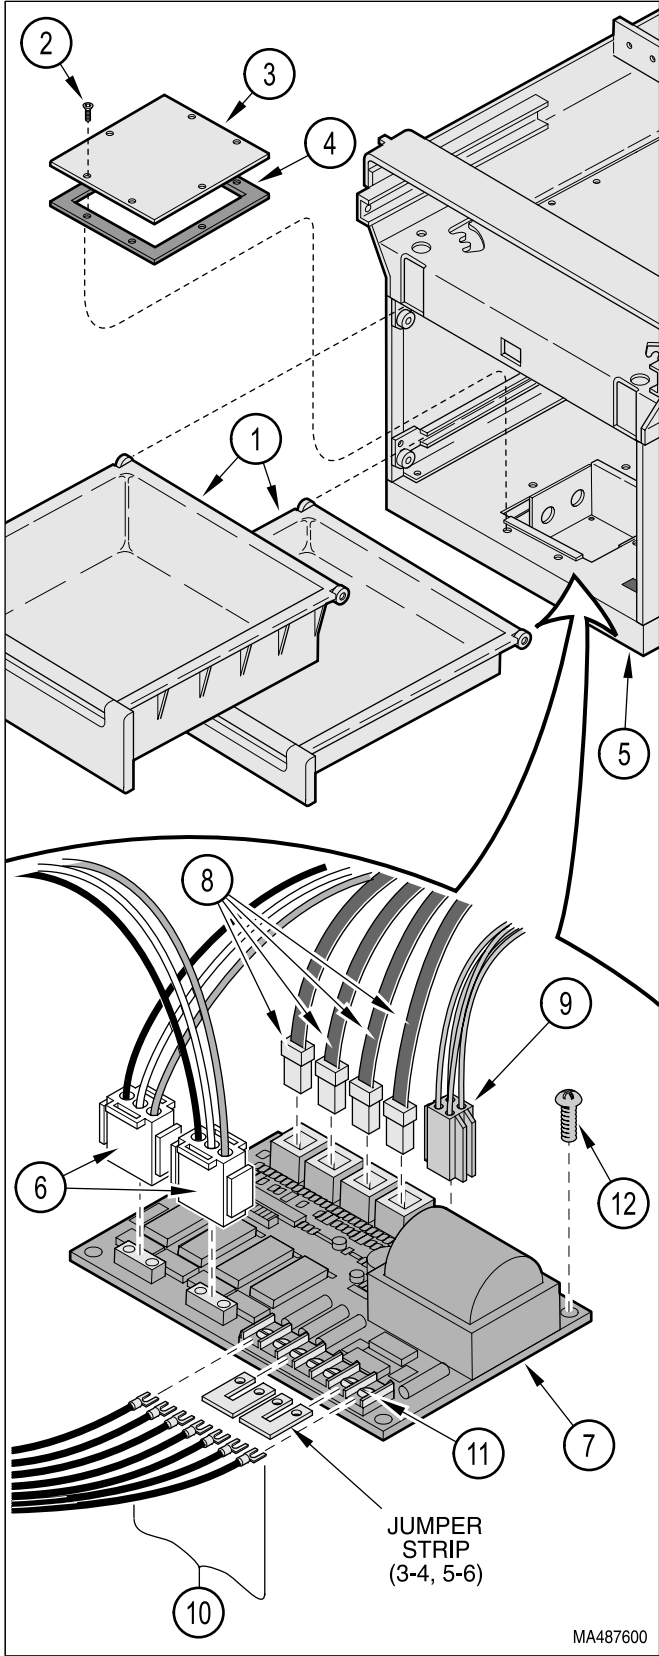

Figure 4-17. PC Board Removal / Installation (later units)
- (1) Unplug table power cord from wall outlet.
- (2) Remove two drawers (1, Figure 4-17) from foot end of table.
- (3) Remove six screws (2), cover plate (3) and gasket (4) from upper base weldment (5).
- (4) Tag and disconnect two wire harnesses (6) from PC control board (7).
- (5) Tag and disconnect four modular cords (8) from PC control board (7).
- (6) Tag and disconnect wire harness (9) from PC control board (7).
- (7) Tag seven wires (10); then loosen seven terminal screws (11) and disconnect seven wires (10) from terminal strip of PC control board (7).
- (8) Check jumper strips to ensure they are in place.
- (9) Remove four screws (12) and PC control board (7) from upper base weldment (5).